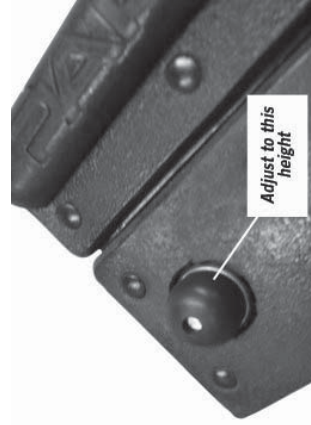

Figure 3 - Install Switch
- 3) Mount the switch and adjust the switch housing flush with the rubber pad as shown in figure 3.